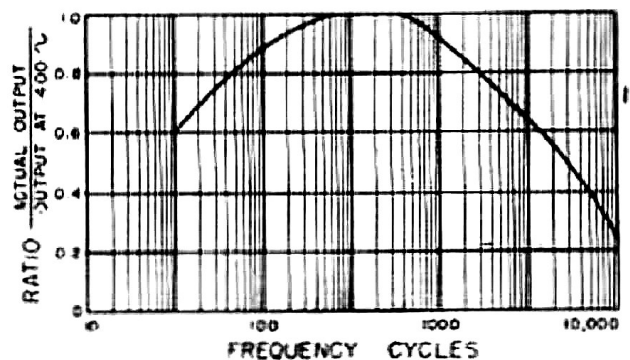

Figure 4.11 - Typical Receiver Fidelity Curve
a. Fidelity is a quality of reproduction and is determined by a combination of two factors - electrical and tonal. The ear is the measuring stick for the tonal quality. The Model 288X is used to electrically check fidelity. The Model 288X is used to generate audio frequency output, 0-15 kc. With the use of an output indicator, a fidelity characteristic curve, as shown in Figure 4.11, may be obtained.